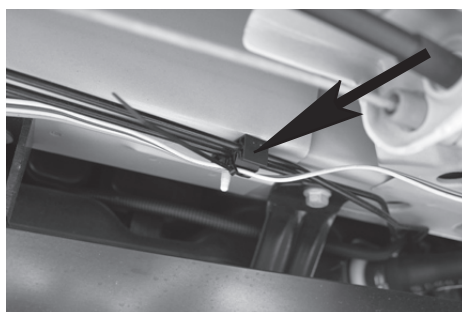

Figure 5
11. From front of wheel well route to brake line brackets and secure with cable ties shown in **Figure 5**.